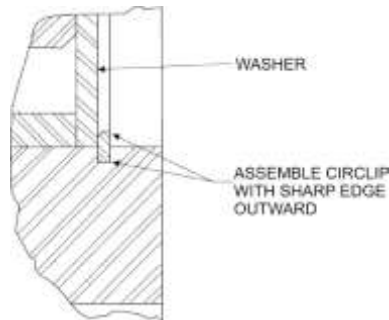
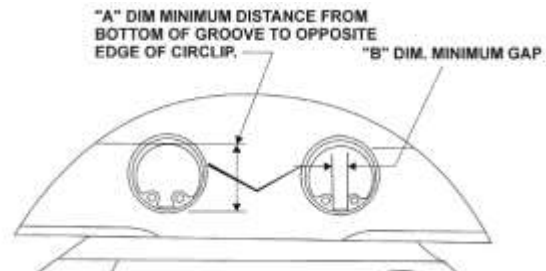

Figure 55
Figure 56
- (6) Install a new counterweight washer in each of the two holes on the counterweight as shown in Figure 55.
- (7) Install a new circlip on one side of each counterweight with the sharp edge outward as shown in Figure 55.
- (8) Use the specified Lycoming gage set identified in the latest revision of Service Instruction No. SI-1535. Make sure the circlips are installed correctly on the counterweight (Figure 55). Figure 56 shows the location of the A and B dimensions. Dimension A is the diameter of the gage. Dimension B is the width of the gage.